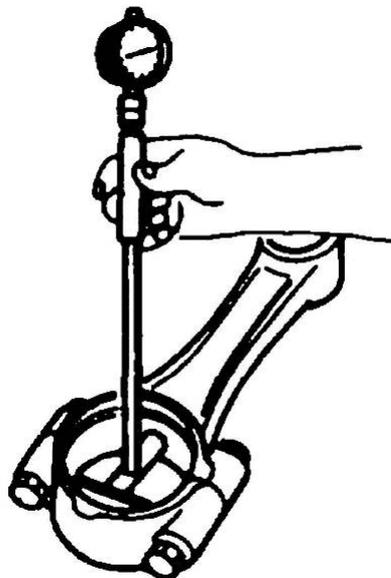

Figure 28 Measuring the Connecting Rod Bearing
- p. Install the new bearings into the connecting rod big-end cap. Install the cap and torque the retaining bolts to 39 N.m (29 lbf.ft), tighten each bolt a further 60 to 90 degrees. With an internal micrometer, measure the inside diameter of the bearing (Figure 28). The nominal diameter is 64 mm. Subtract the crankshaft bearing journal diameter from the diameter of the bearing to obtain the clearance. The standard clearance is 0.10 to 0.073 mm (0.004 to 0.0029 in). If the clearance exceeds the limit, replace the crankshaft.